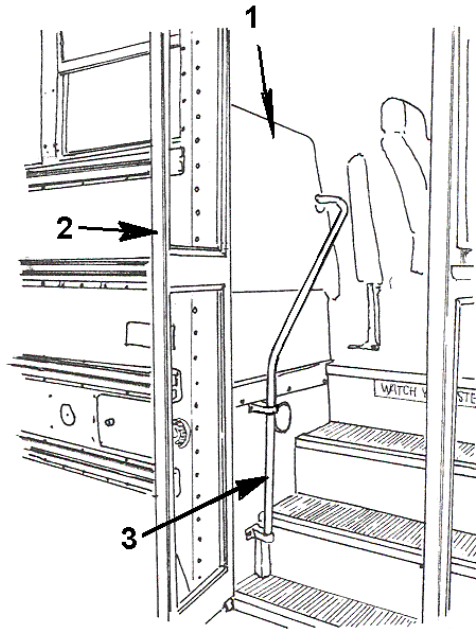
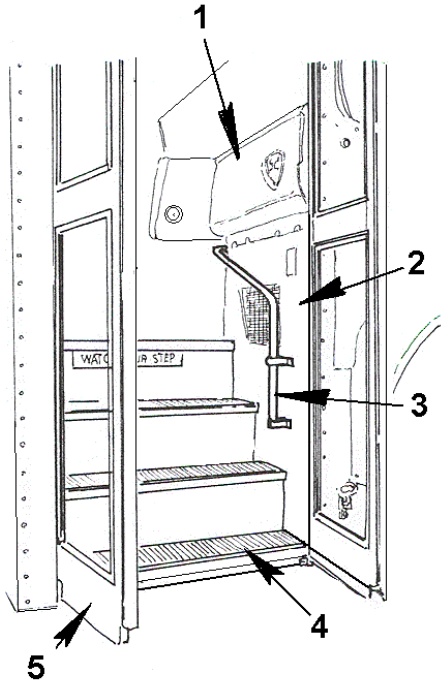

Figure 41 Step Well Assist Rails
Figure 42 Step Well Heater
Assist rails are located at the entry step along the left front bulkhead wall (Fig. 41, item 3). The rails are installed to assist ingress and egress of the passengers. An optional assist handrail is located on the forward bulkhead (Fig. 42, Item 3) below the windshield and dash board extension panel.
The bus entrance may also be supplied with an optional step well heater (Fig. 42, Item 2). The step well heater controls are located on the left wing switch panel.